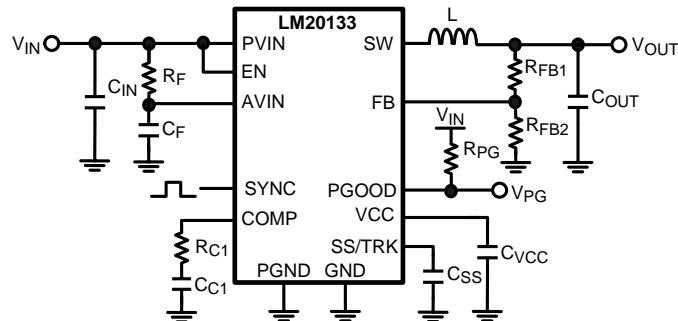

Figure 30. Typical Application Circuit
The LM20133 switching regulator features all of the functions necessary to implement an efficient low voltage buck regulator using a minimum number of external components. This easy to use regulator features two integrated switches and is capable of supplying up to 3A of continuous output current. The regulator utilizes peak current mode control with nonlinear slope compensation to optimize stability and transient response over the entire output voltage range. Peak current mode control also provides inherent line feed-forward, cycle-by-cycle current limiting and easy loop compensation. The internal oscillator can synchronize up to 1.5 MHz minimizing the inductor size while still achieving efficiencies up to 96%. The precision internal voltage reference allows the output to be set as low as 0.8V. Fault protection features include: current limiting, thermal shutdown, over voltage protection, and shutdown capability. The device is available in the HTSSOP 16-pin package featuring an exposed pad to aid thermal dissipation. The LM20133 can be used in numerous applications to efficiently step-down from a 5V or 3.3V bus. The typical application circuit for the LM20133 is shown in Figure 30.
This section walks the designer through the steps necessary to select the external components to build a fully functional power supply. As with any DC-DC converter numerous trade-offs are possible to optimize the design for efficiency, size, or performance. These will be taken into account and highlighted throughout this discussion. To facilitate component selection discussions the circuit shown in Figure 30 below may be used as a reference. Unless otherwise indicated all formulas assume units of amps (A) for current, farads (F) for capacitance, henries (H) for inductance and volts (V) for voltages.
To prevent high frequency noise spikes from disturbing the sensitive analog circuitry connected to the AVIN and AGND pins, a high frequency RC filter is required between PVIN and AVIN. These components are shown in Figure 30 as C_F and R_F . The required value for R_F is 1Ω . C_F must be used. Recommended value of C_F is $1.0\ \mu F$. The filter capacitor, C_F should be placed as close to the IC as possible with a direct connection from AVIN to AGND. A good quality X5R or X7R ceramic capacitor should be used for C_F .